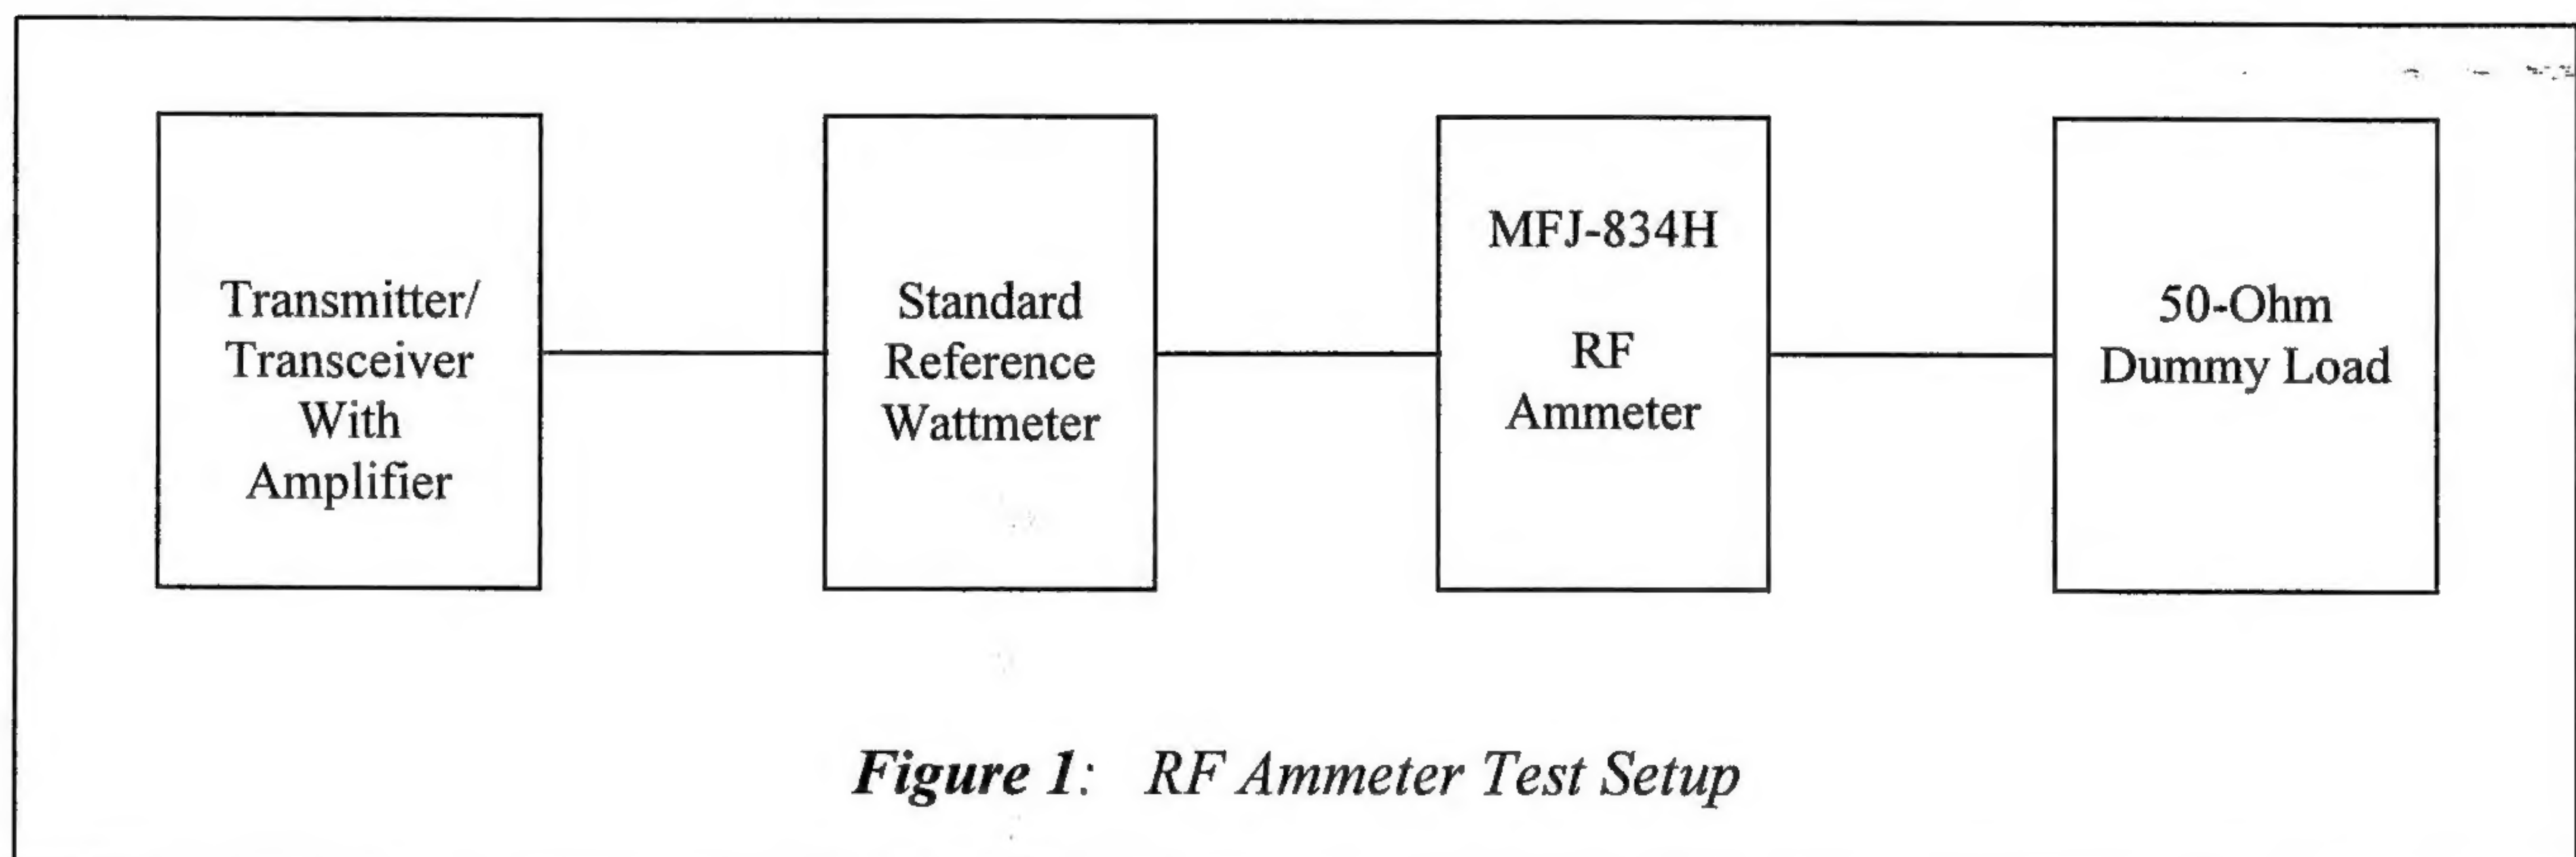

Figure 1: RF Ammeter Test Setup
1. Refer to *Figure 1* for the Test Setup and refer to the PCB layout in *Figure 2* for trim pot location.
3. Connect the Test Setup equipment as shown in *Figure 1*. Use a 50-ohm dummy load for the antenna. Set the Transmitter to the 14 MHz in the 20-meter band.